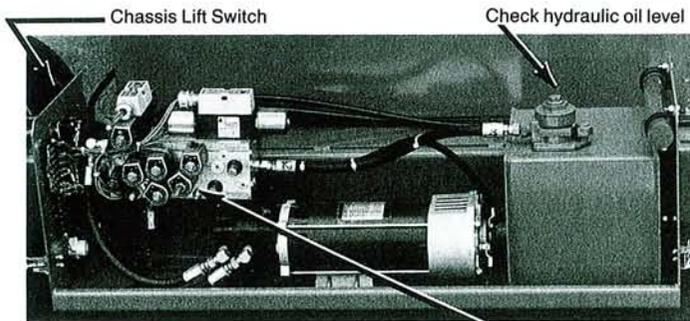

Figure 1. Power Module (See Emergency Lowering Instructions)
3. Check hydraulic oil level with platform fully lowered. Unscrew LARGE hex portion of cap. Oil should be visible in filter (Figure 1). Use Mobile DTE 25 or equivalent.
16. Push chassis lift switch to "UP" position and fully elevate platform (Figure 1).
19. Lower platform part way by pushing chassis lift switch to "DOWN" (Figure 1).
22. Close emergency lowering valve (Figure 1).
2. Open valve by turning knob counterclockwise (Figure 1) approximately 1/4 turn and pull out to disengage detent.